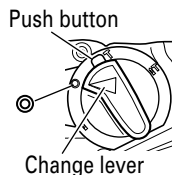

Fig. 21
- (1) Mount the bull point or cold chisel.
- (2) Press the push button and set the change lever to **⊙** mark. (Fig. 21)